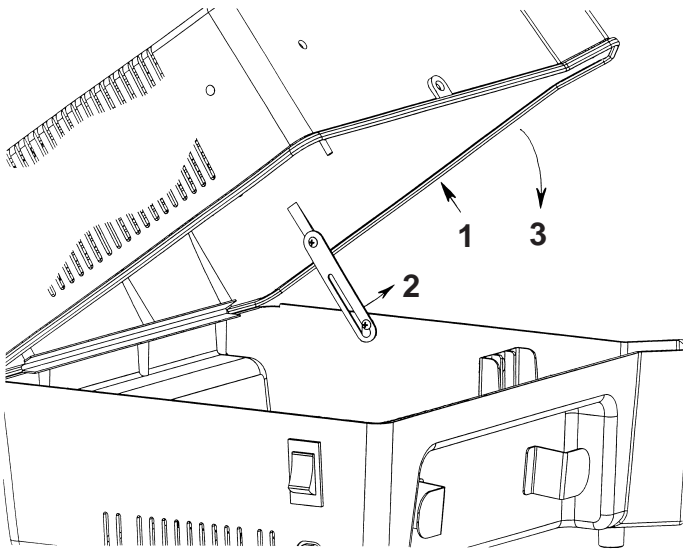

FIG. 3
6. Close the projector lid, see Fig. 3.